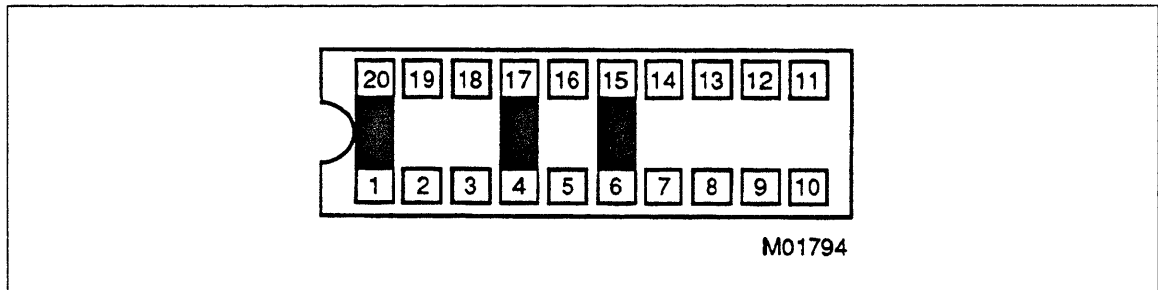

Figure 3-33. URI Configuration for 585 Printer
5. Using a needle-nose pliers or similar tool, install jumpers in plug at 46EO, as shown on figure 3-33.